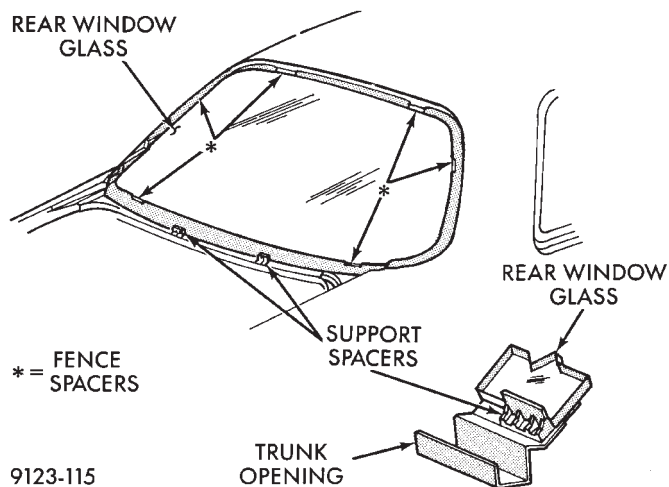

Fig. 23 Rear Window Glass
REAR WINDOW GLASS**REMOVAL (FIG. 23)**
(1) Prepare the work area, window fence, and glass the same way as described in the Windshield section of this group.
(2) Place fence spacers at the locations shown (Fig. 23).
(3) Apply a 10 mm (0.4 in.) bead of urethane around the perimeter of the glass.
(4) Install the glass in the same manner described in the Windshield section of this group.
(5) Install the rear window moulding.
(6) Connect rear window defogger wiring and install interior trim.
(7) After urethane has cured, water test rear window to verify repair. Verify rear window defogger operation, see Group 8N, Rear Window Defogger.